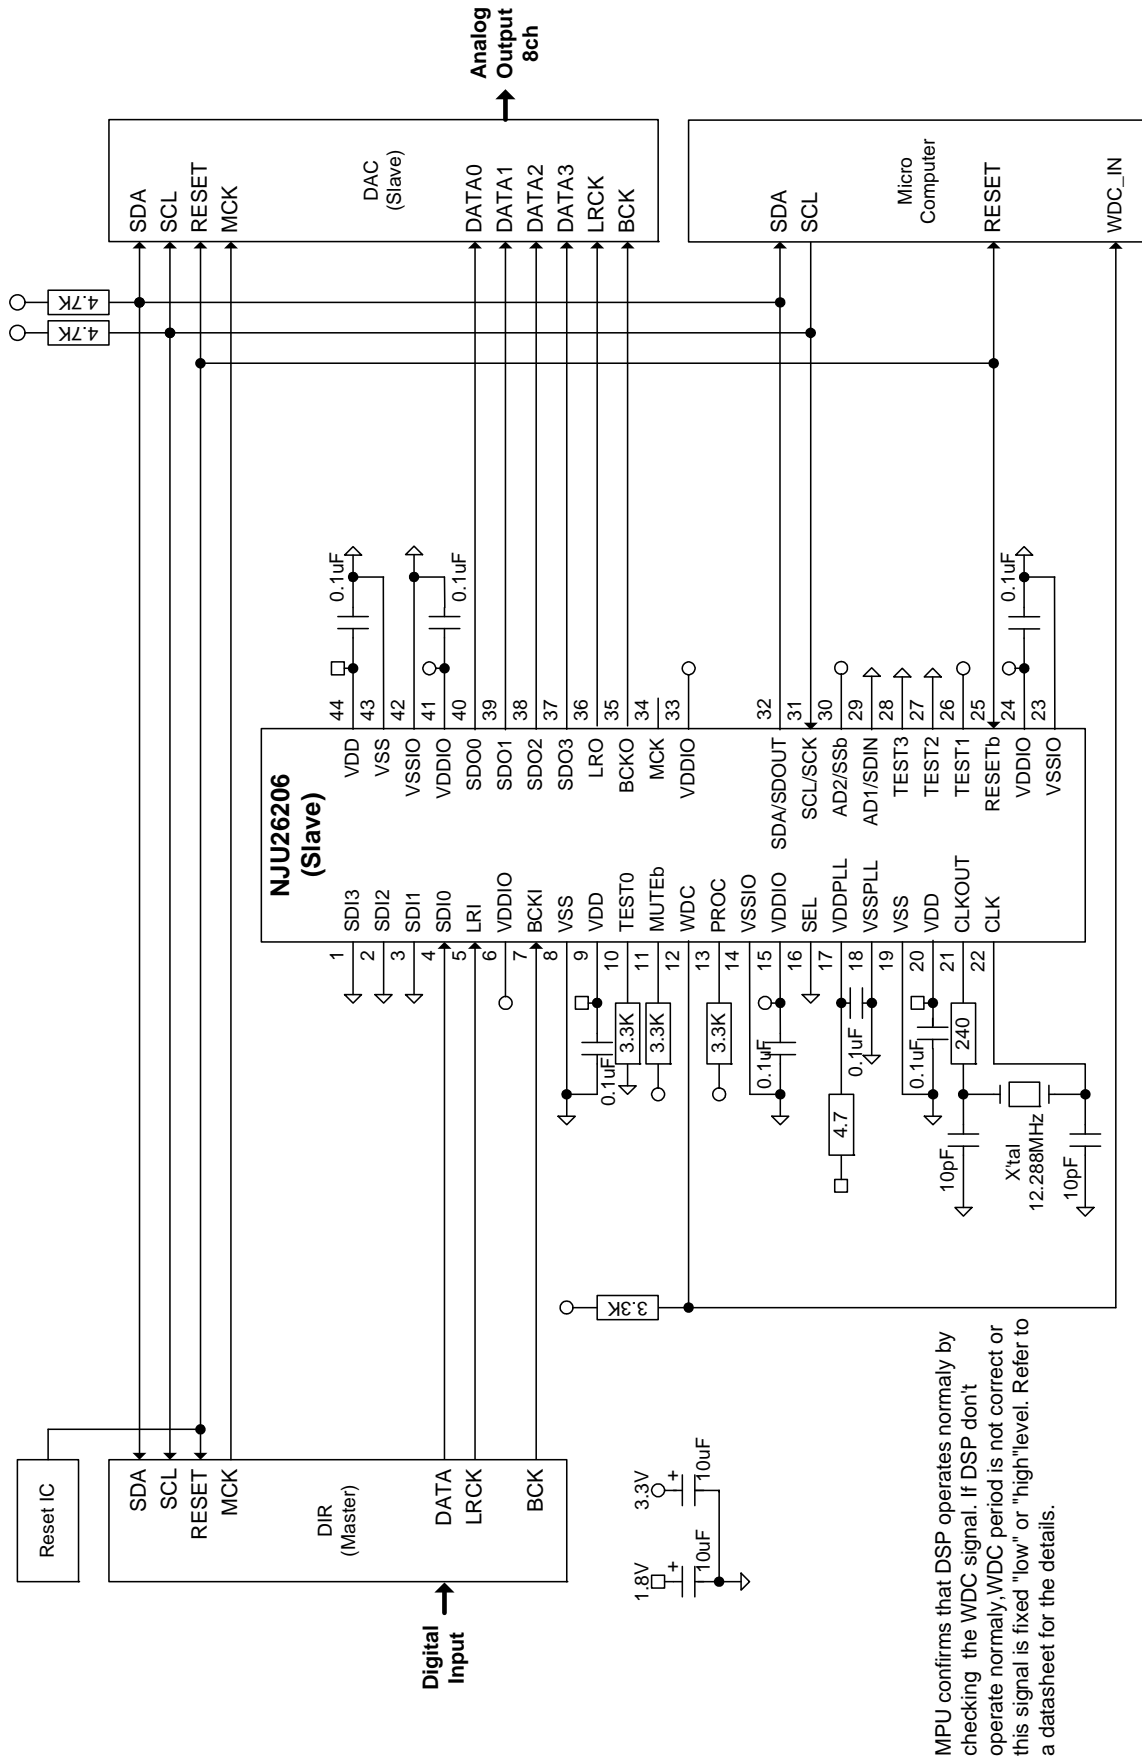
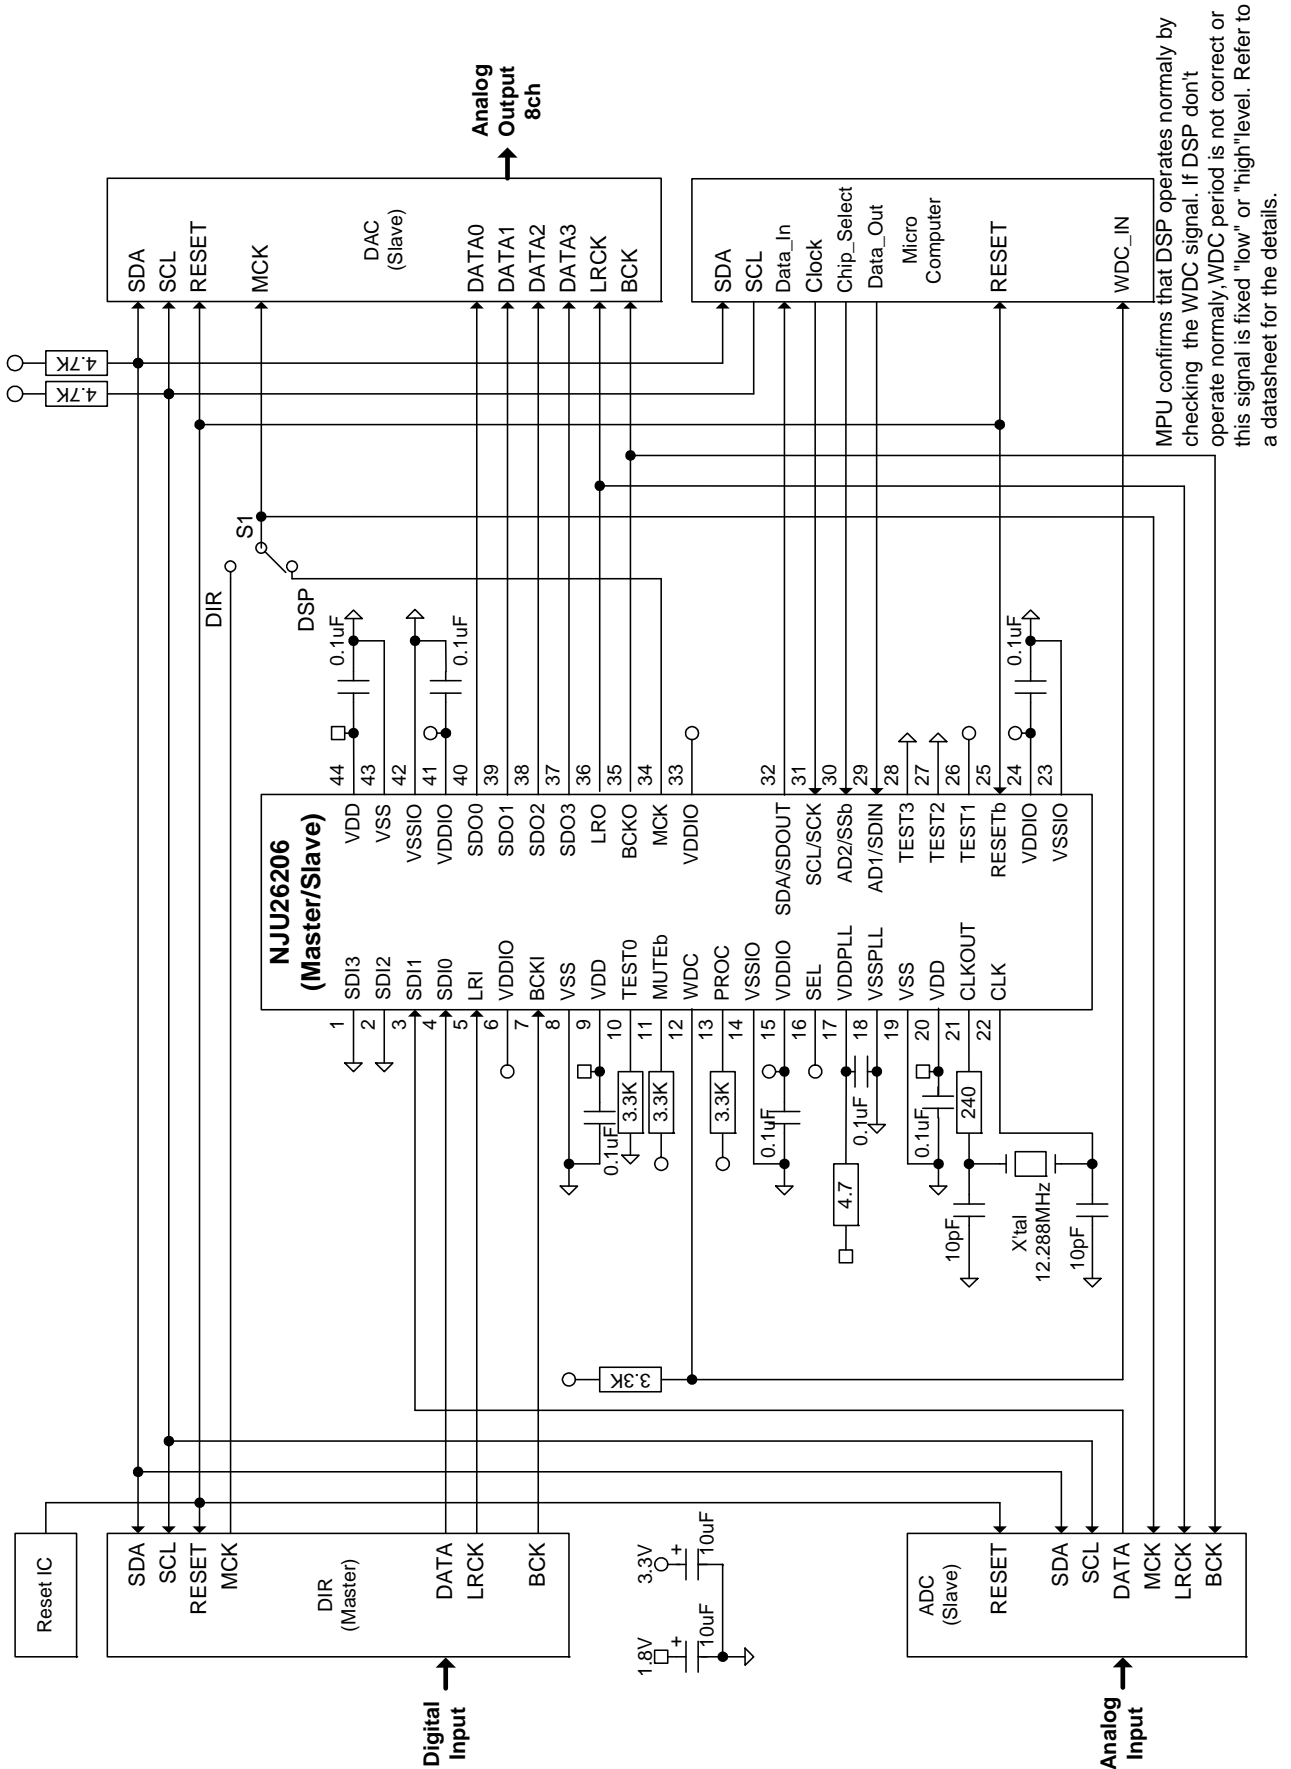

Figure 3. Application circuit 1: NJU26206 with DIR and DAC (I²C Bus)
Figure 6. Application circuit 4: NJU26206 with DIR, ADC and DAC (4-wire Serial Bus)
Note3: The ADCs and DACs operate in Slave mode in the Figure 3 to Figure 6.
The Figure 3 shows the circuit with DIR, DSP and DAC. The DSP operates in the Slave mode.
The Figure 6 shows the circuit with DIR, ADC, DSP and DAC.
- 1) The DSP employs three kinds of power supplies, core (V_{DD}), PLL (V_{DDPLL}), and IO (V_{DDIO}). The V_{DD} and V_{DDPLL} are 1.8V. The V_{DDIO} is 3.3V. The input terminals accept 5V signal. The Figure 3 to Figure 6 circuits assumes that the peripheral ICs employ 3.3V power supply. Then the DSP can connect to the peripheral ICs directly.